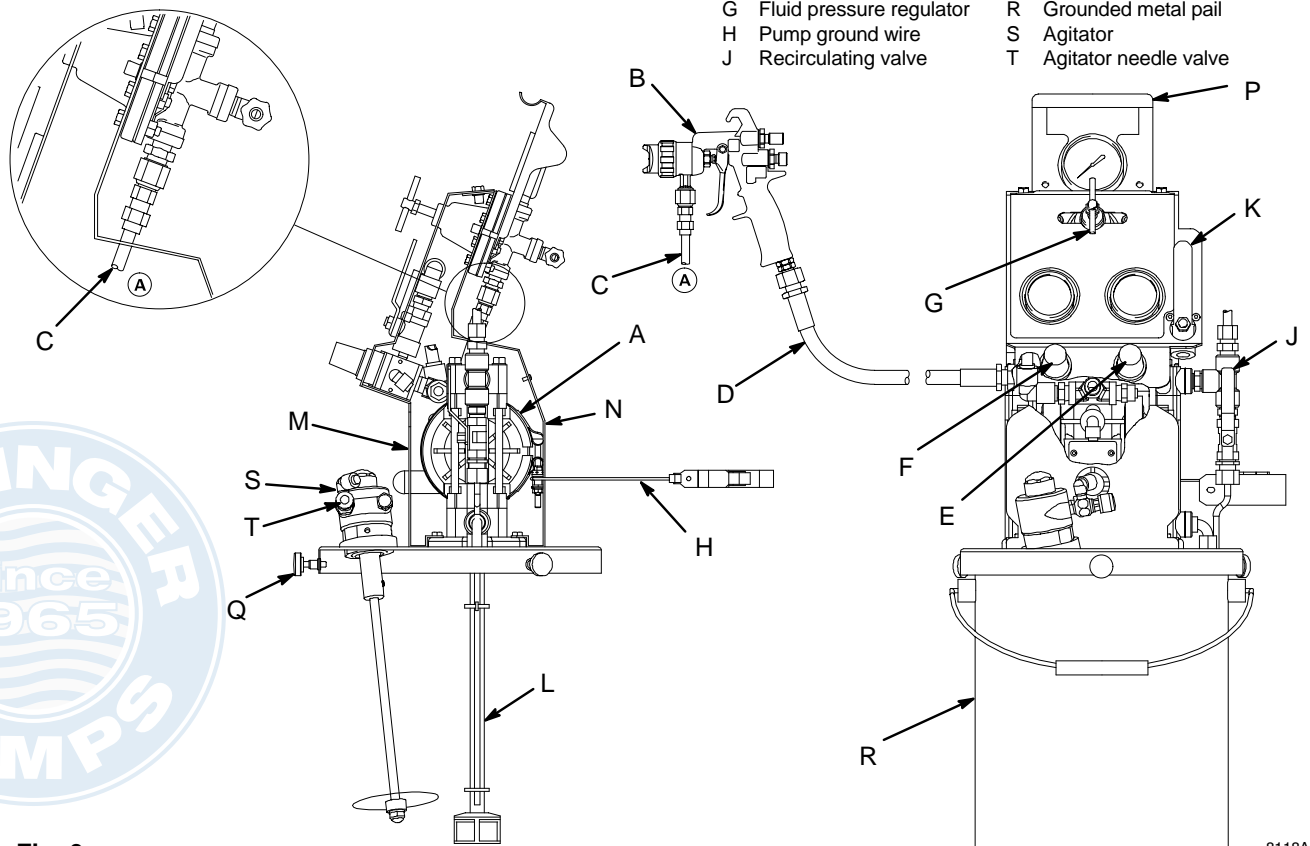

Fig. 3
## Pressure Relief Procedure *See Fig. 3*
*See Fig. 3*
**NOTE:** The pump air regulator knob (E) and gun air regulator knob (F) have a locking feature. To unlock the knobs, pull out on them. You will feel them click out. To lock them at the desired setting, push them back into the locked position.
See Fig. 3
## Systems with Agitator See Fig. 3
## Priming the System *See Fig. 3*
Flush the system as follows (See Fig. 3):